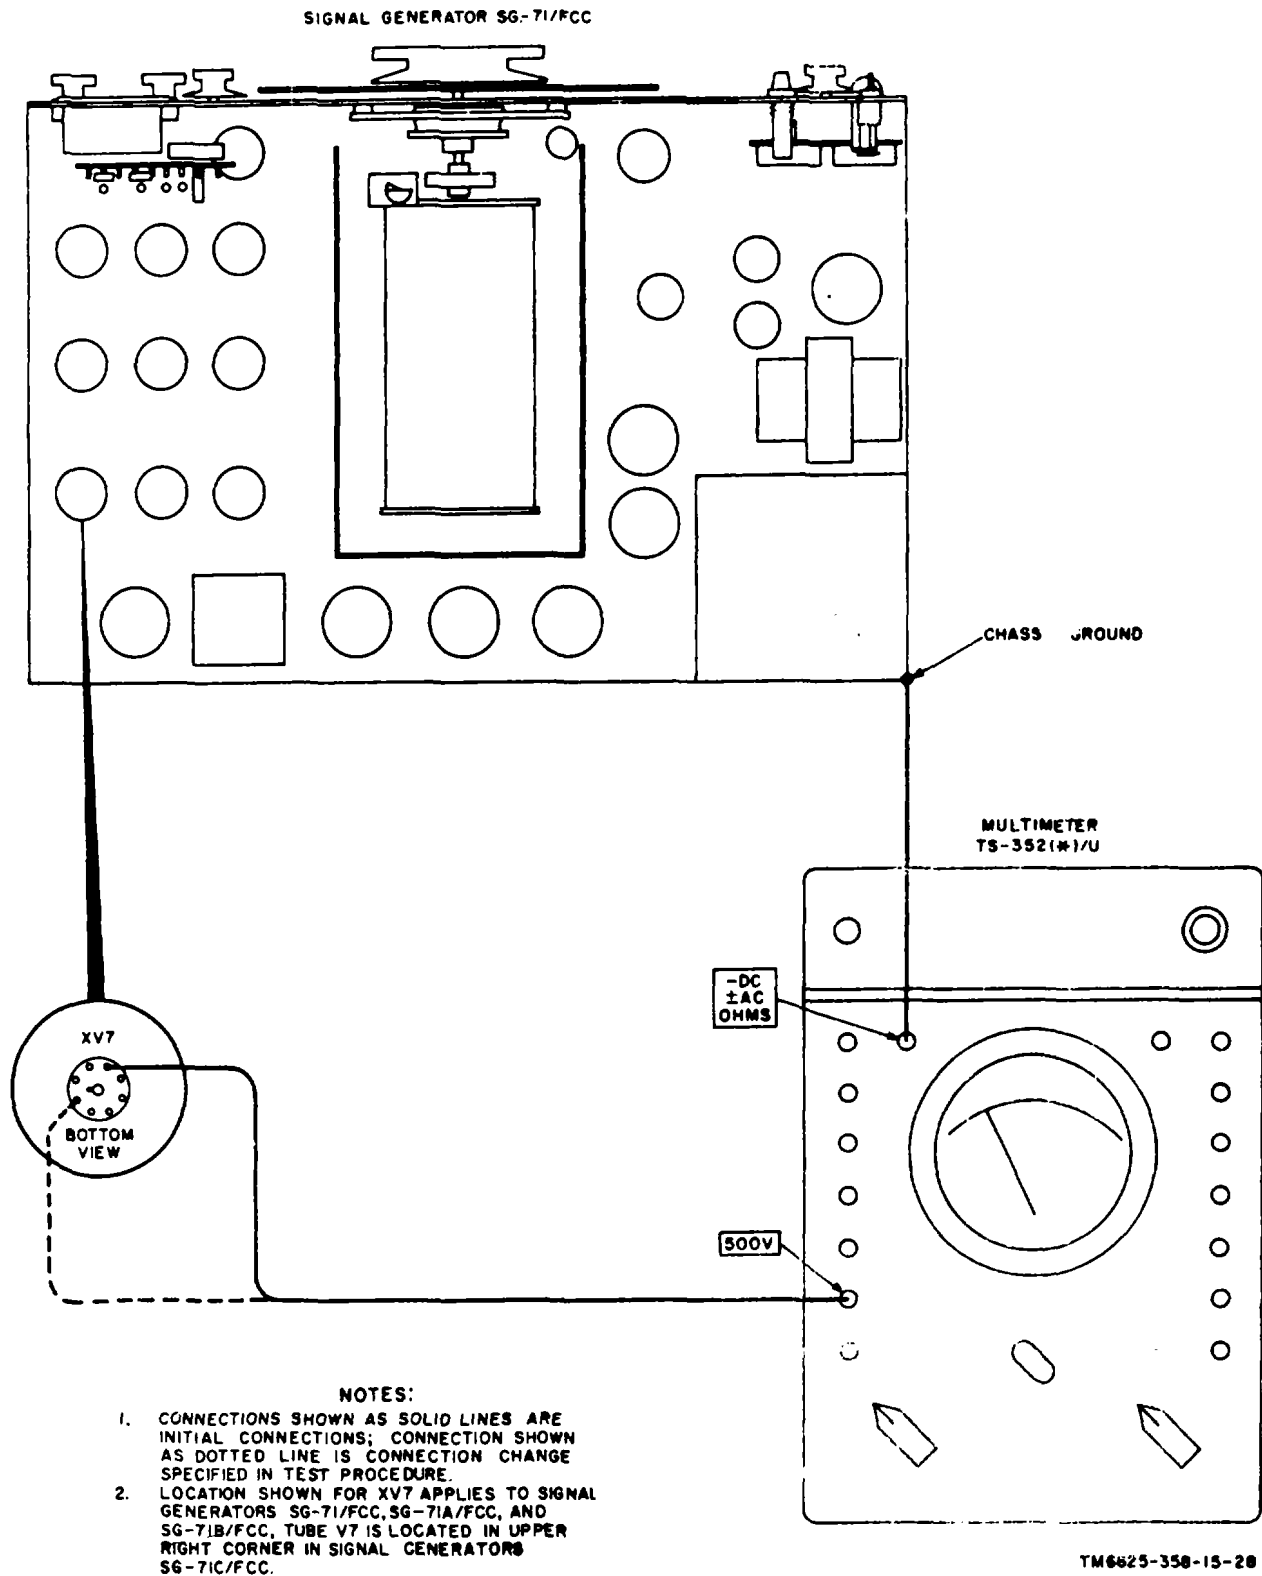

Figure 8-1. Dc power supply voltage, test setup.
- (1) Connect the equipment as shown in figure 8-1.
- (2) Allow the equipment to warm up at least 20 minutes before the test procedure is started.